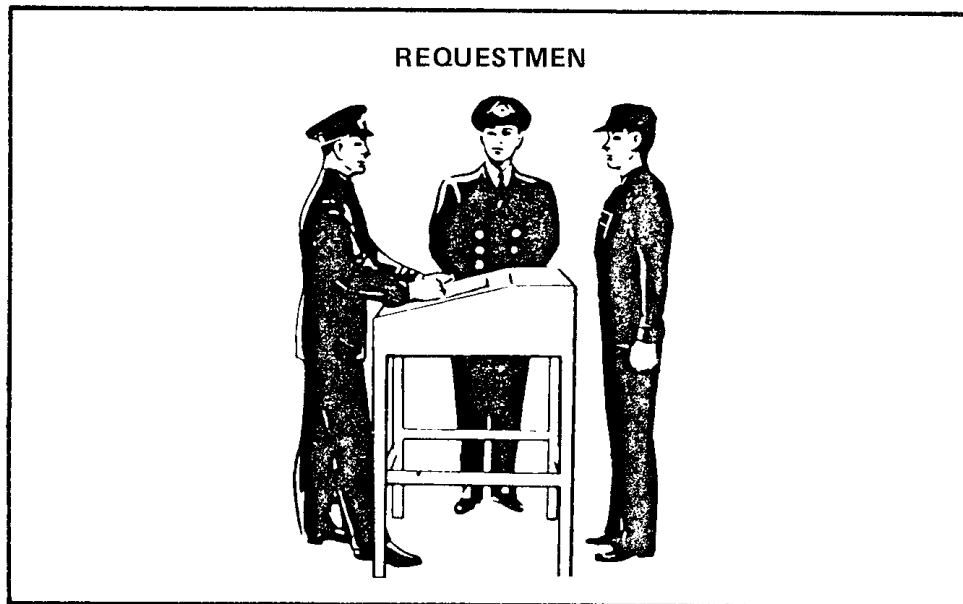

Figure 9-7 Requestmen
34. **Requestmen** — The procedure for **requestmen**, see Figure 9-7, is similar to that of defaulters except that you do not remove your cap. You are called to the table in the same way, you salute, and the request, see Figure 9-8, is read by the Coxswain. The Officer then considers the matter and either gives a decision or refers the matter to the appropriate authority.